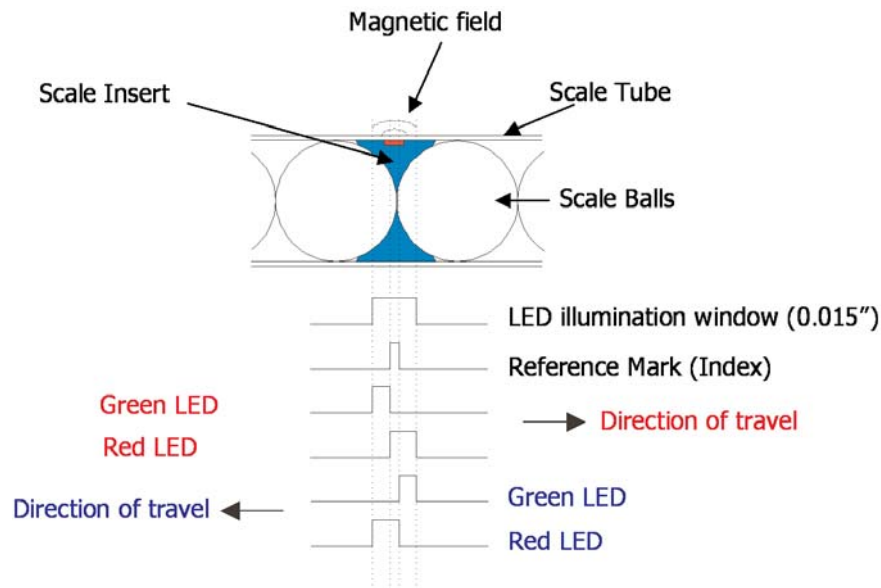

Figure 10.1 Operation of the head-mounted LED.
In order to facilitate installation a head mounted LED has been included. The head LED is illuminated Green when the sensor has detected the magnet insert. It then changes to Red once the internal incremental reference mark, within the window defined by the scale insert, is detected. The LED then turns off once the external magnet is no longer detected. Thus the repeatability of the reference mark is within a single resolution count. See Figure 10.1.
- If the LED is Green then the index position longitudinally is within approximately $\pm 2\text{mm}$ of the current head position. In most circumstances this will be sufficient. If fine placement is required then the scale should be moved longitudinally until the LED turns Red. It is at this transition point that the index output will occur. (See Figure 10.1) If the LED turns off and not to Red then move the scale in the opposite direction as you have moved away from the index position.
- As the reader-head passes over the reference marker (in either direction – see Figure 10.1) the LED will flash Green then Red.